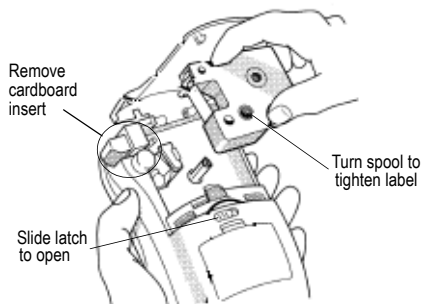

Figure 2
1. Slide the latch to open the label cassette door. See Figure 2.
2. Make sure the label and ribbon are taut across the mouth of the cassette and that the label passes between the guideposts. If necessary, turn the spool clockwise to tighten the label. See Figure 2.